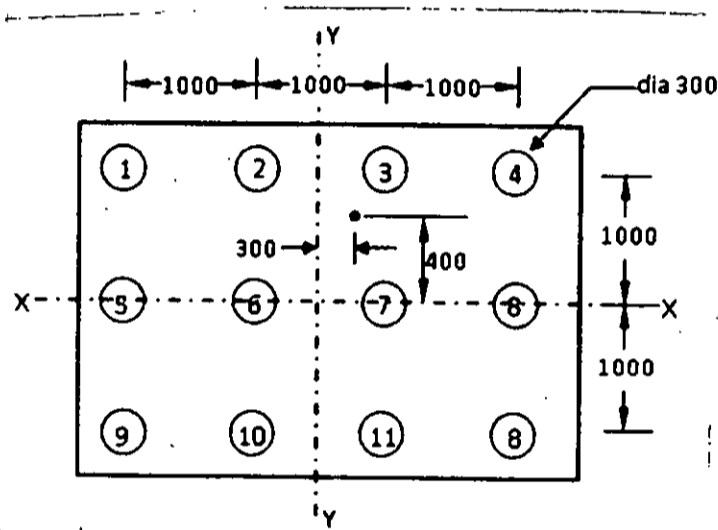

Fig. 1 For Q. No. 1(a)
1. (a) A pile group consisting of 12 piles (shown below in Figure 1, dimensions are in mm) is subjected to a total vertical load of 4500 kN, with eccentricity $e_x = 0.40$ m and $e_y = 0.30$ m. Determine the maximum and minimum loads on an individual pile. **(14+6)**